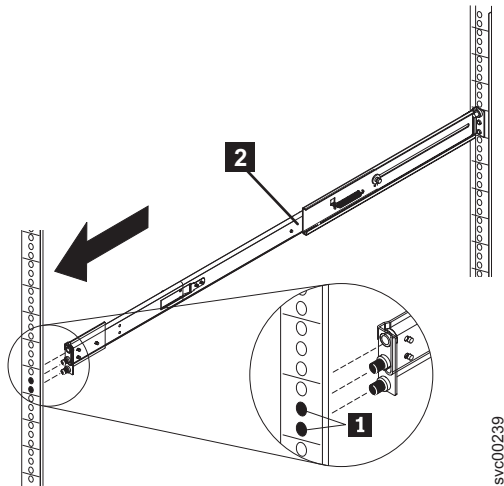

Figure 57. Extending the right slide rail
4. Extend the right slide rail **2** and insert it into the front rack mounting flange, as shown in Figure 57 on page 77, with the rail pins **1** protruding through the flange. Insert the left slide rail in the same way.